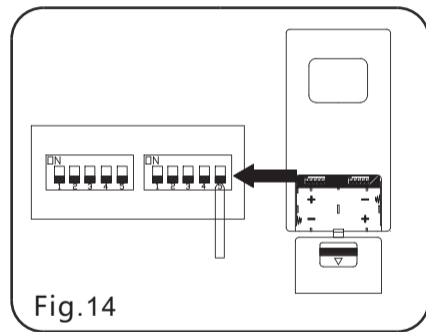

Fig.14
**Note:** The universal hand held remote control System is equipped with learning frequency function which has 1024 code combinations to prevent potential interference from other remote units. The frequency on your Receiver and Transmitter units have been preset at the factory. (Fig.14). No frequency change is necessary, should you desire to install another fan within the same home or area with a separate frequency code please see the "frequency interference" troubleshooting section of this instruction manual to learn how to change the frequency.